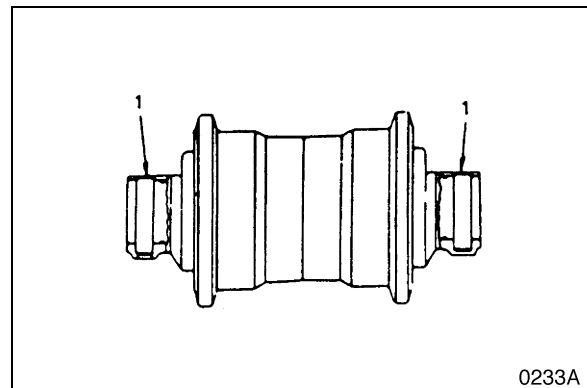

Figure 31
2. Pull pin (1, Figure 31) from the collar.